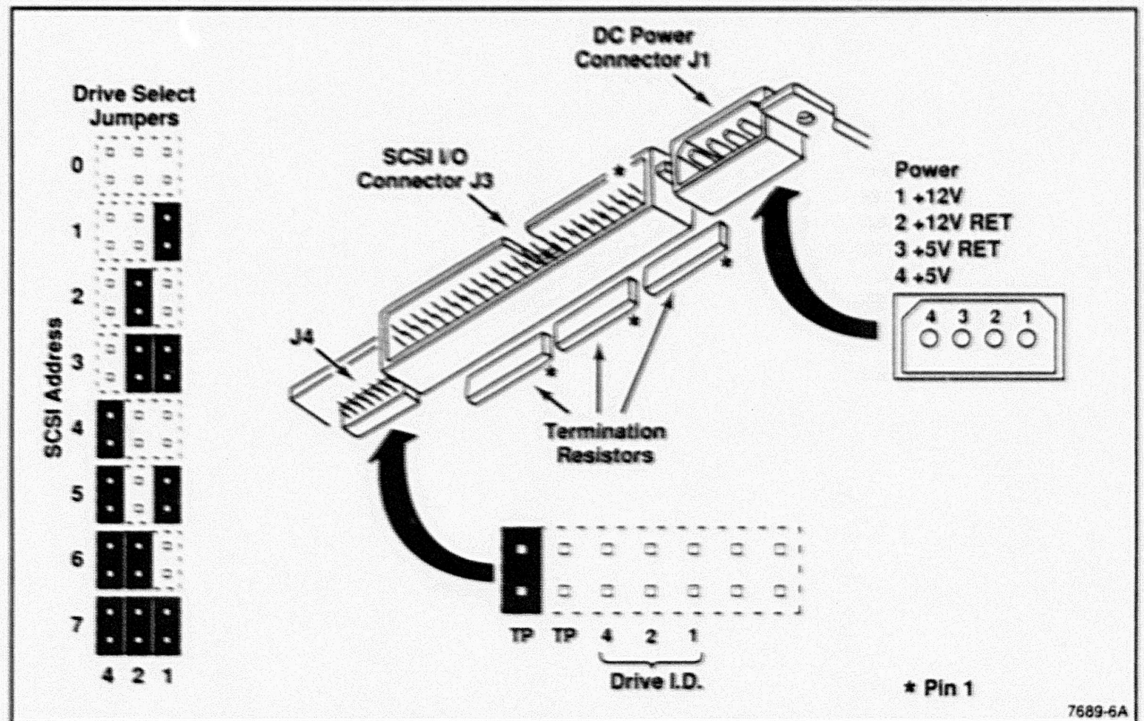
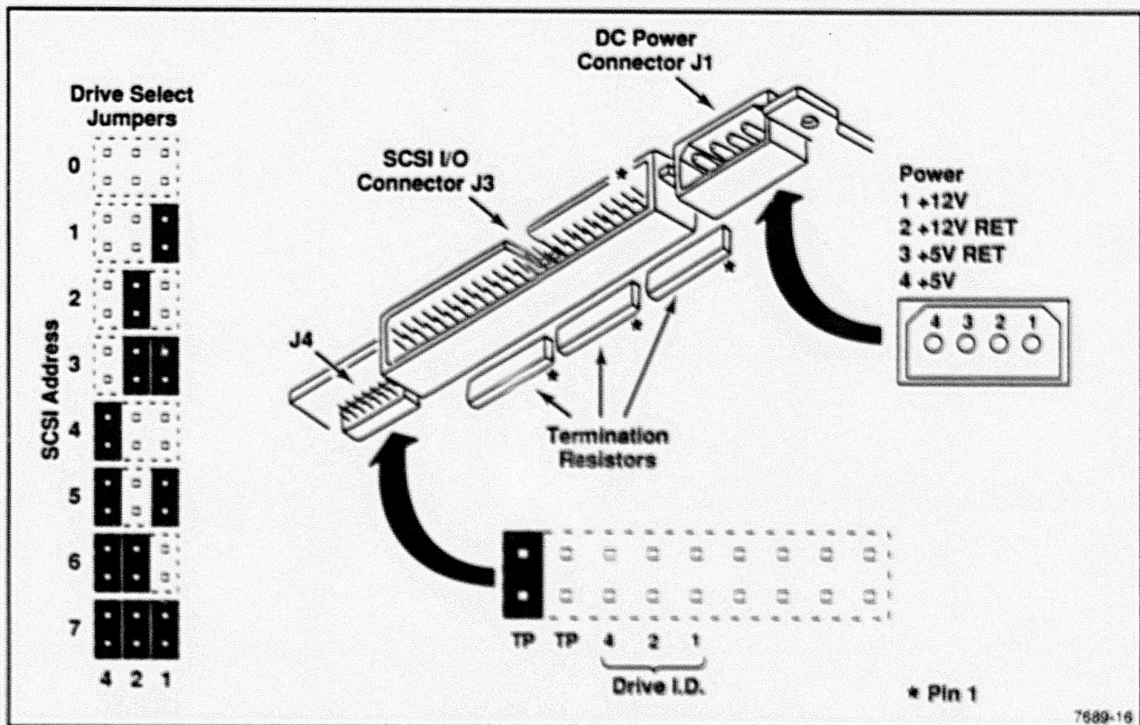

Figure 12. Strap Locations for the 600-Mbyte Hard Disk Drive.
Figure 13. Strap Locations for the 1-Gbyte Hard Disk Drive.
1. Verify that the hard disk address jumpers are set to SCSI address 00. See Figure 12 (for the 300-Mbyte drive) or Figure 13 (for the 600-Mbyte and 1-Gbyte drives) in the discussion "Device Strapping and Addressing" later in this manual.